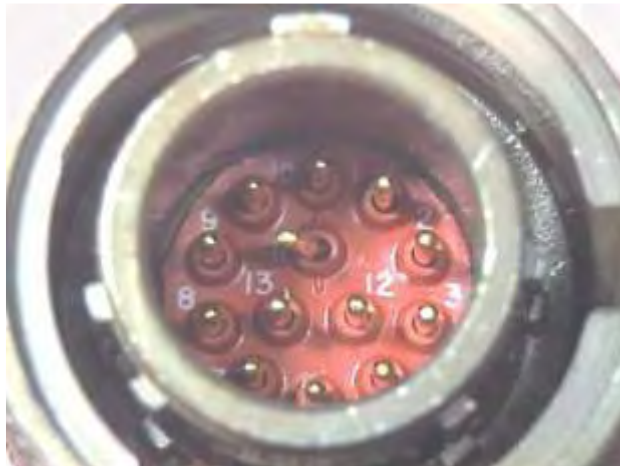

Figure 5
- (8) Damaged contact.
- (9) Contact is bent more than one pin diameter, as shown in Figure 5.